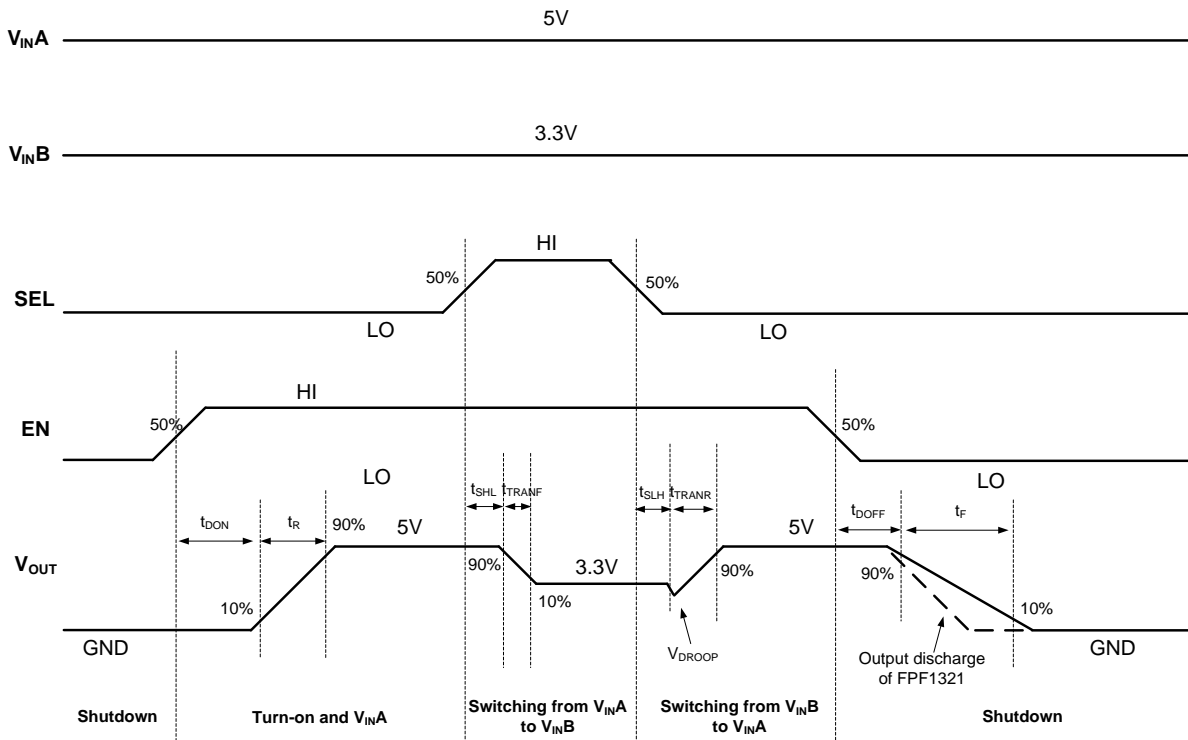

Figure 5. Dynamic Behavior Timing Diagram
- $t_{DON}/t_{DOFF}/t_r/t_f/t_{TRANR}/t_{TRANF}/t_{SLH}/t_{SHL}$ are defined in Figure 5.